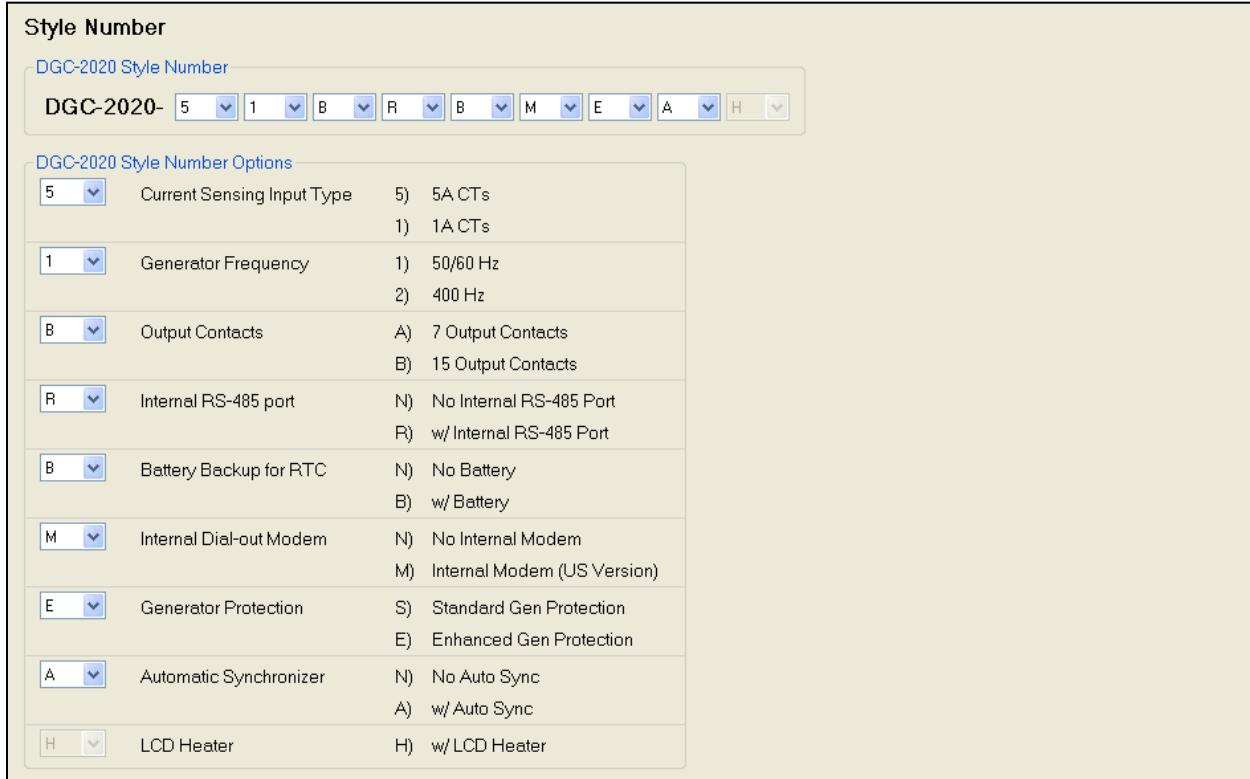

Figure 6-57. Settings Explorer, General Settings, Style Number Screen
1. Under the Settings Explorer, click on *General Settings* and then *Style Number*. Verify the unit you are communicating with has the *Automatic Synchronizer* option present. See Figure 6-57.